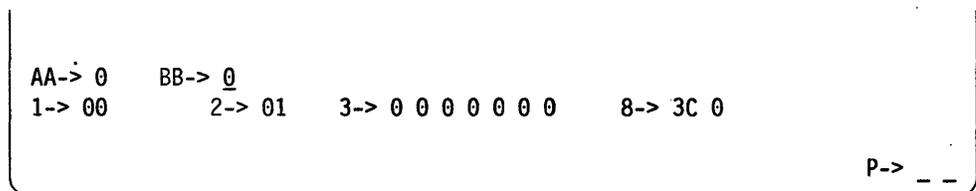

Figure 3-9. Cursor in Field BB of Operator Input Fields
14. Press the Cursor Right key to move to Field BB. See Figure 3-9.